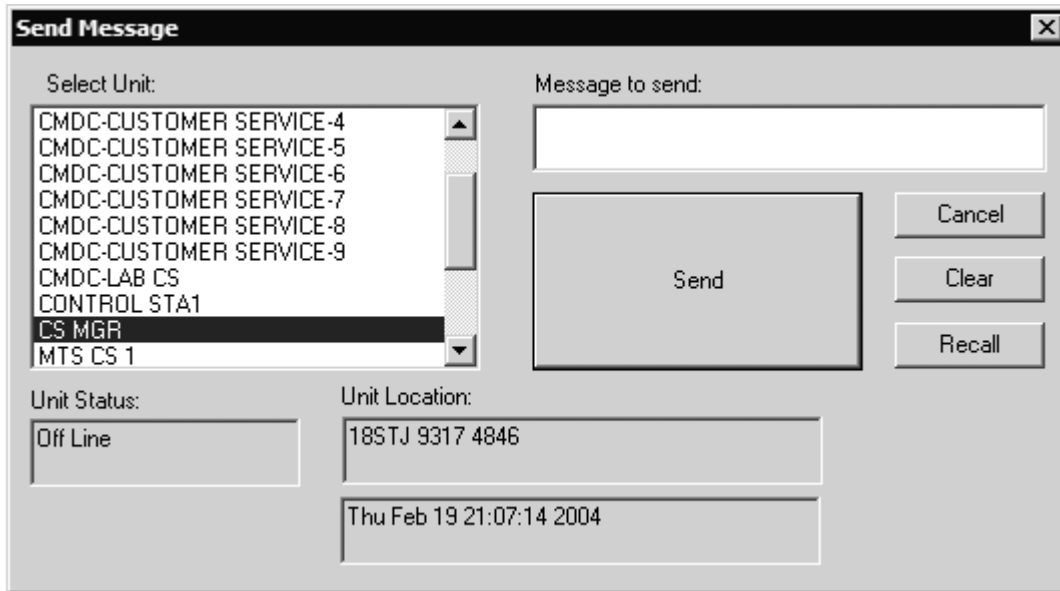

Figure 9-5 Check Status of Vehicle via MTS Messenger
- (3) Close the Vehicle Server and the Map Viewer. Shut down (close) MTS Messenger.
- (4) Restart MTS Messenger. Make sure MTS Messenger is functioning appropriately. Using the send function in MTS Messenger, check that the vehicle is on-line in MTS Messenger and showing its position, or that it is off-line but that its last report is available. Figure 9-5 illustrates a unit, CS MGR, that is off-line, but that its last position report was at MILGRID 18TJ 9317 4846. If position